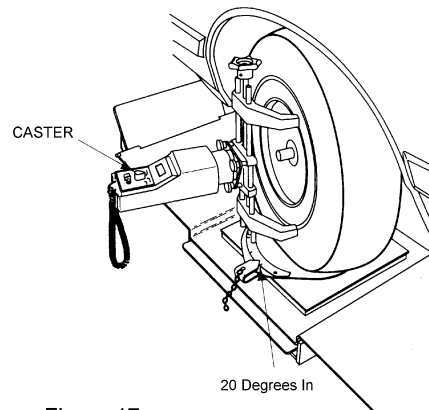

Figure 17
- 3) Set the selector to CASTER. Press the Zero Button. (See Fig. 17)